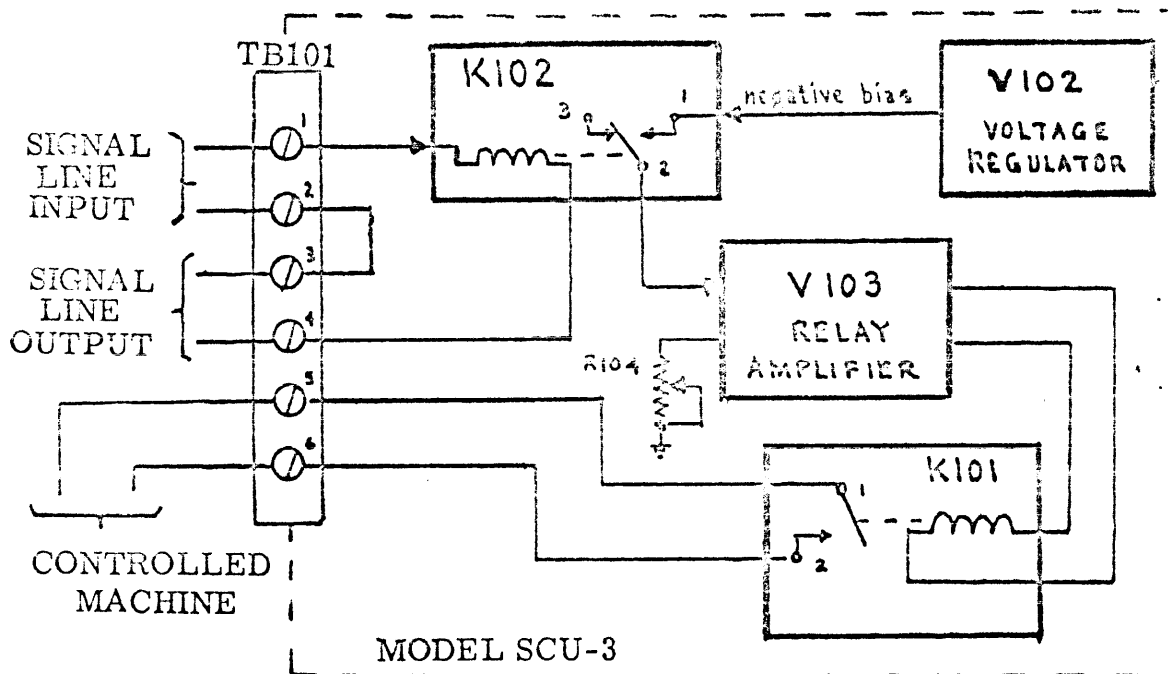

Figure 4-1. Circuit Block Diagram
4-2. CIRCUIT DESCRIPTION (see figure 4-1)
- b. Circuit Block Diagram (figure 4-1).